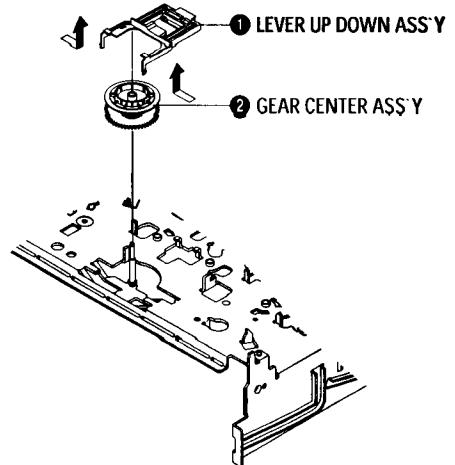

Fig. 1-21 Lever Up Down Ass'y Removal
- 1) Remove the 2 hooks in the direction of arrow as shown Fig. 1-21 and lift the Lever Up Down Ass'y ①.
- 2) Lift the Gear Center Ass'y ②.